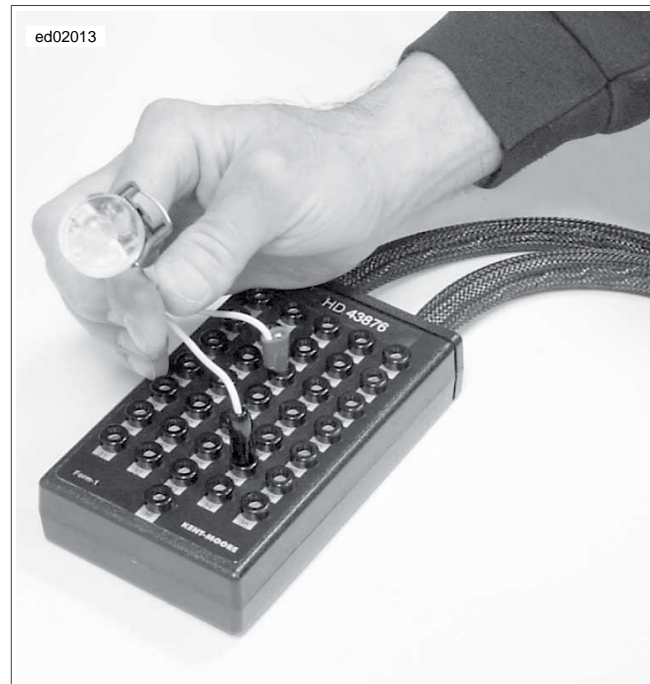

Figure 4-68. Ignition Coil Circuit Test
2. See Figure 4-68. Plug IGNITION COIL CIRCUIT TEST ADAPTER (Part No. HD-44687) and FUEL INJECTOR TEST LAMP (Part No. HD-34730-2C) into Breakout Box. Note that cranking the engine with test lamp in place of the ignition coil can sometimes cause a DTC P1351, P1352, P1354 or P1355. This condition is normal and does not by itself indicate a malfunction. DTCs must be cleared if this condition occurs.